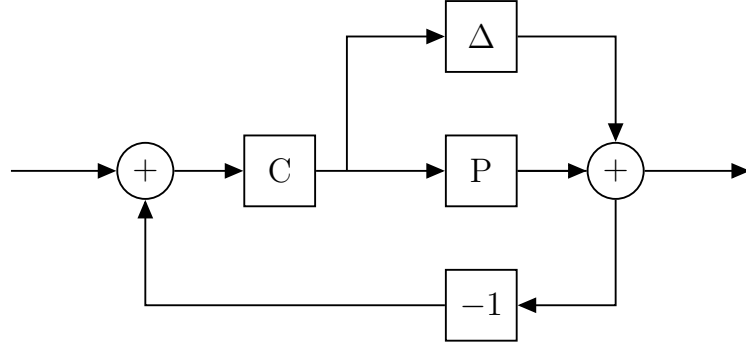

Figure 6 Block diagram for problem 7.
7. Consider the setup presented in Figure 6 where the system $P = 1/(s + 1)$ is controlled with the P-controller $C = K$, $K > 0$ given the uncertainty Δ , $\|\Delta\|_\infty \leq 2$. For what values of K is the closed loop stable? (2 p)